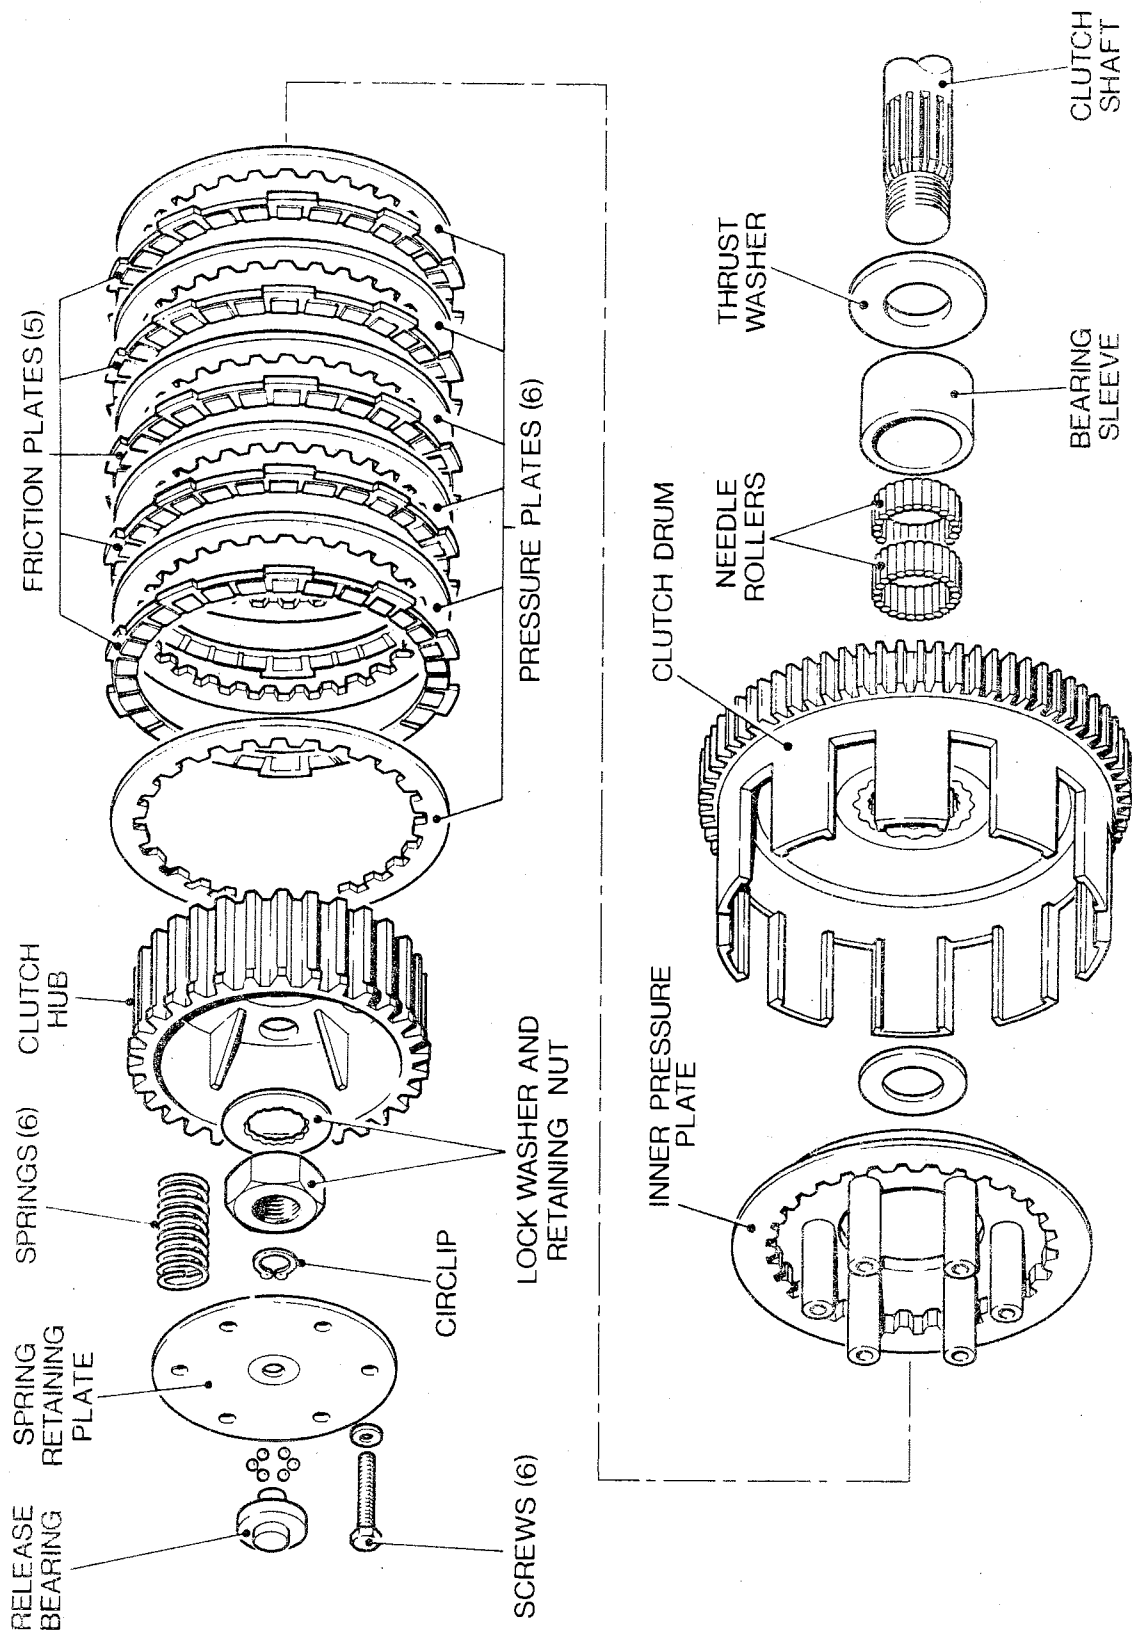

Figure 3.1 - Clutch Assembly Exploded View
2. The clutch hub is splined to the clutch shaft and held in place by a splined lock washer and nut. The outside of the hub is splined to take the pressure plates. There are holes in the hub through which the posts on the inner pressure plate protrude. (See Figure 3.1).
4. The inner pressure plate is internally splined and geared to the clutch hub (Figure 3.1). The posts on the inner pressure plate protrude through the clutch hub with springs positioned over them (Figure 3.2). The posts are internally threaded. Screws secure the plate to the top of the posts holding the springs under tension. In this position the springs force the retaining plate to the hub (Figure 3.2), which draws the inner pressure plate to the hub, and so clamps all the plates together.